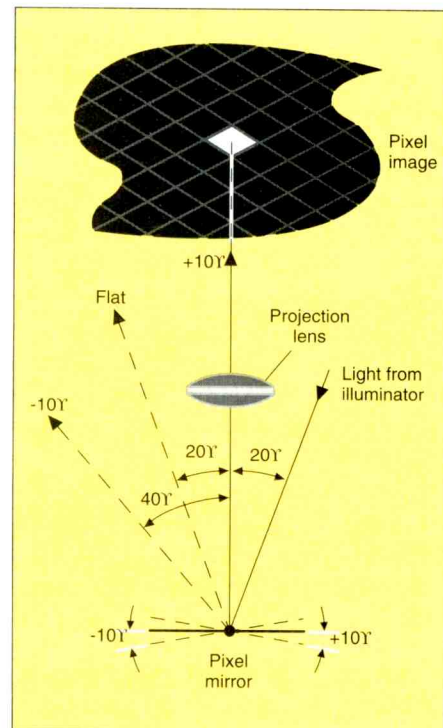

Figure 42. TDMD optical switching principle.
valves. As shown in Figure 42, the DMD acts as a fast digital light switch. The light from the projection lamp is rotated completely out of the pupil of the projection lens so that no Schlieren stop is required.
The three-chip projector has one chip for each of the primary colors, red (R), green (G), and blue (B). Light from an arc lamp is focussed onto an integrator rod, that acts to homogenize the light beam and change its cross-sectional area to match the shape of the DMD. The white light (W) then passes through a total internal reflection (TIR) prism. The prism adjusts the incidence angle of the light beam onto the DMD so the beam can be properly switched into and out of the pupil of the projection lens by the rotating action of the DMD mirrors (refer to Figure 42). A set of dichroic color-splitting prisms splits the light by reflection into the primary colors and directs them to the appropriate DMD. The modulated light from each DMD traverses back through the prisms, that now act as a combiner for the primary colors. The combined light (R,G,B) passes through the TIR prism and into the projection lens. It is not reflected at the TIR prism because the angle of incidence has been reduced below the critical angle for total internal reflection.